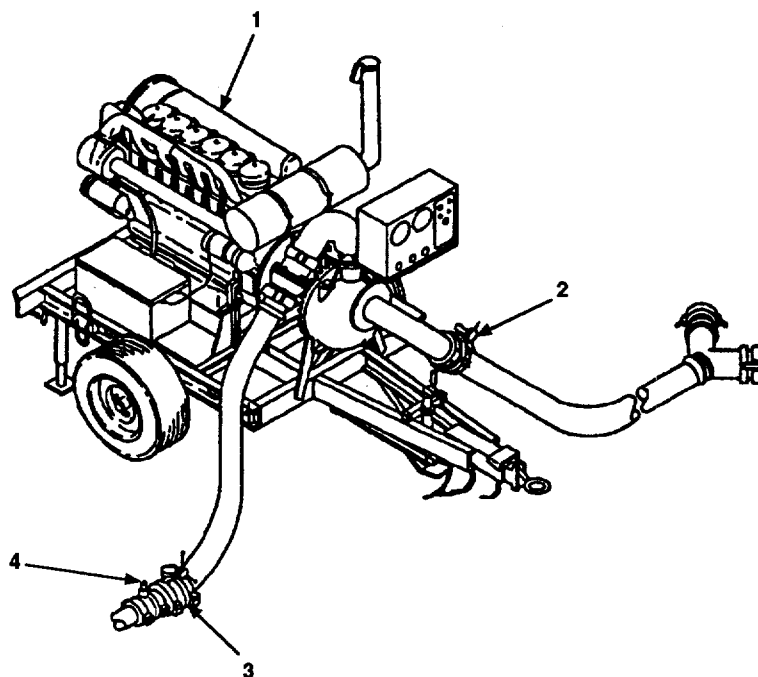

Figure 2-1. Operator's Controls and Indicators for TWDS Lead Pumping Station.
2.1.1 Lead Pumping Station. See figure 2-1 and table 2-1.